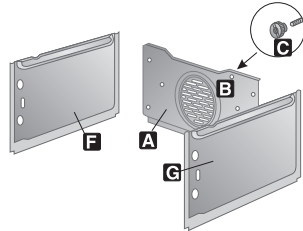

Fig. 2
- To put the pizza plate base back in place, push it firmly down against the oven's bottom panel and ensure it engages with plate of the the pizza heating element (detail **A** Fig. 2)
- 5 Extract the side liners "F" and "G" (fig. 2);
- 6 Extract the back liner "A" after undoing the threaded ring-nut "C" (fig. 2);